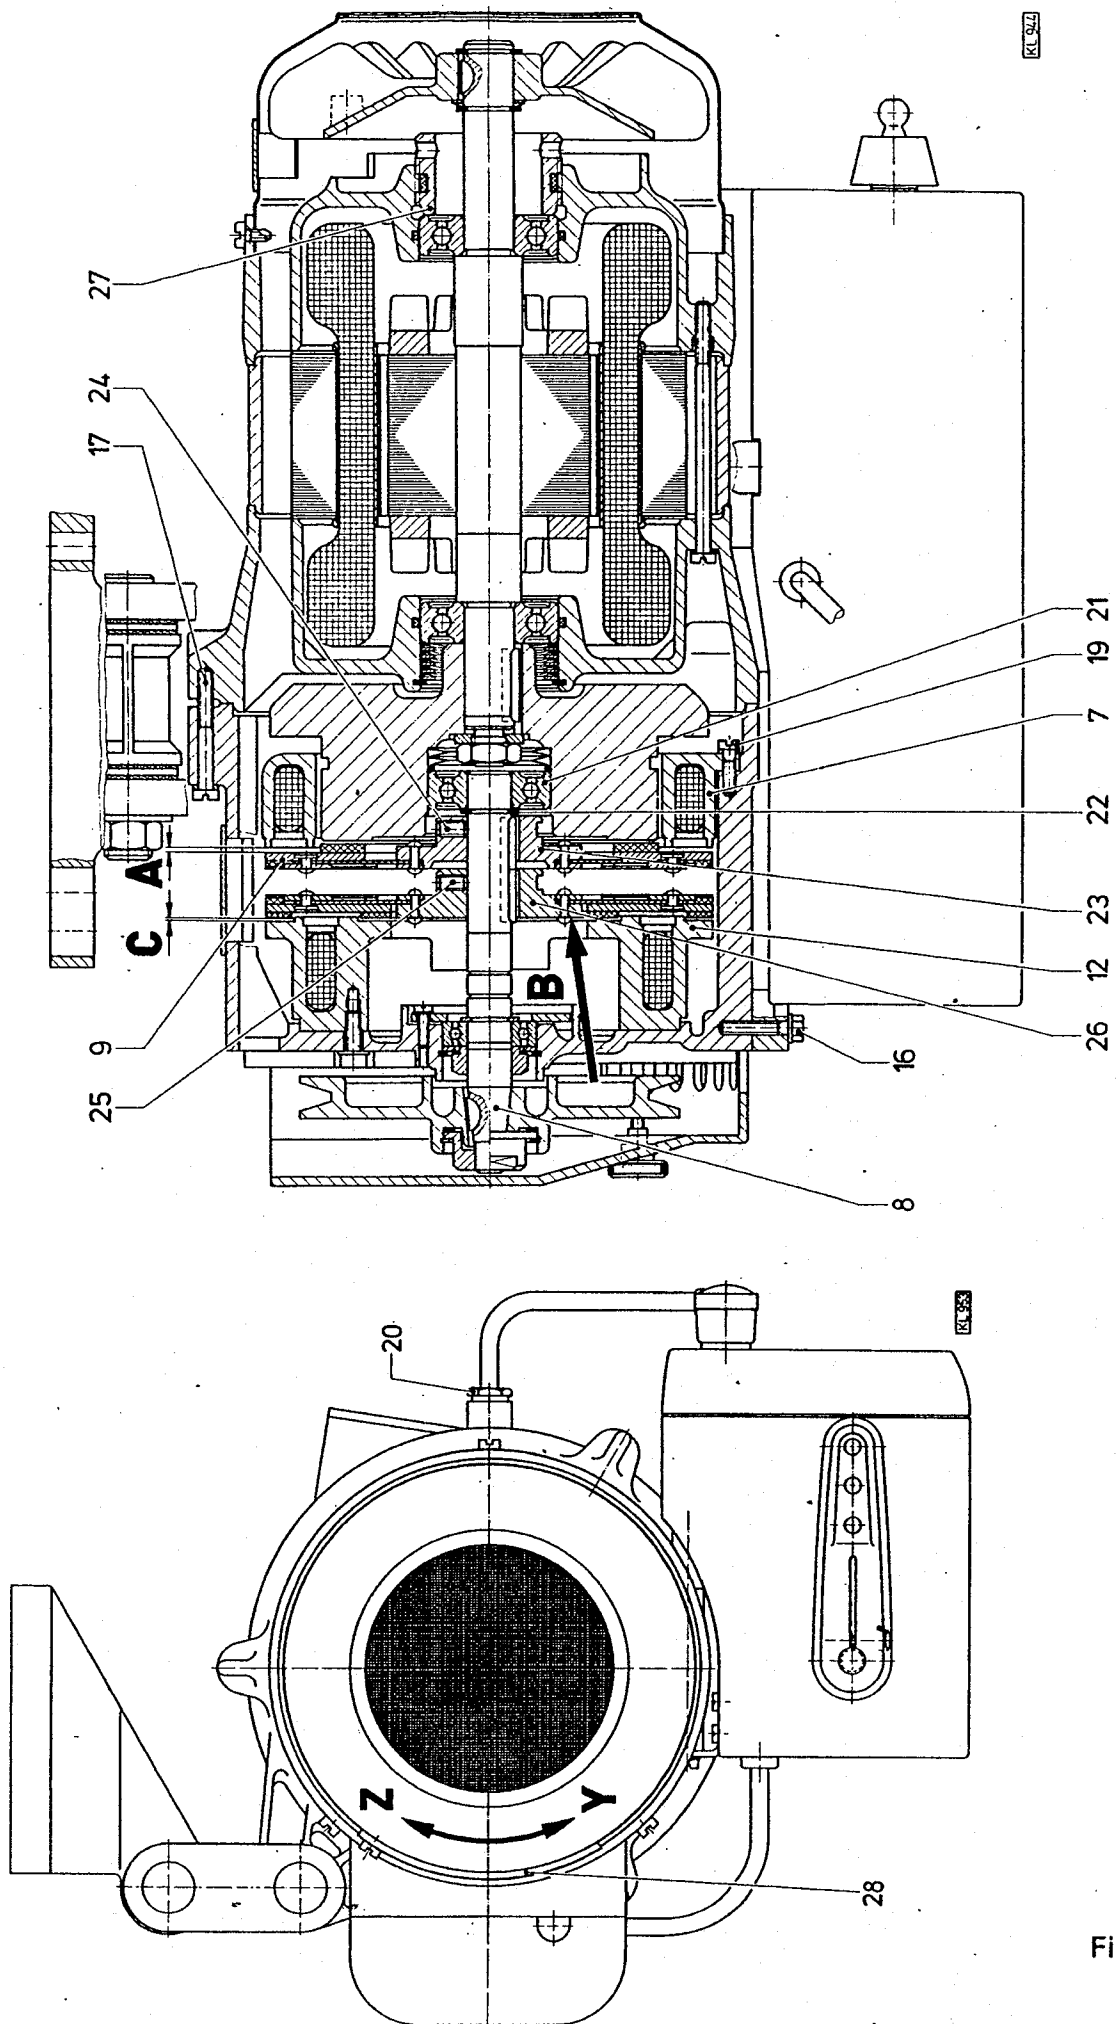

Fig. 8
Should after a long time of use an exchange become necessary please proceed in conformity with figure 8.
Mount clutch to the motor. **Caution!** Take care that the springs and packing necessary for the support of bearing (21) will be put **before** into the bore of the fly-wheel. The sequence of mounting and the correct position is shown in figure 8. Lubricate bore of the fly-wheel with the molykote-paste added to each replacement disc.